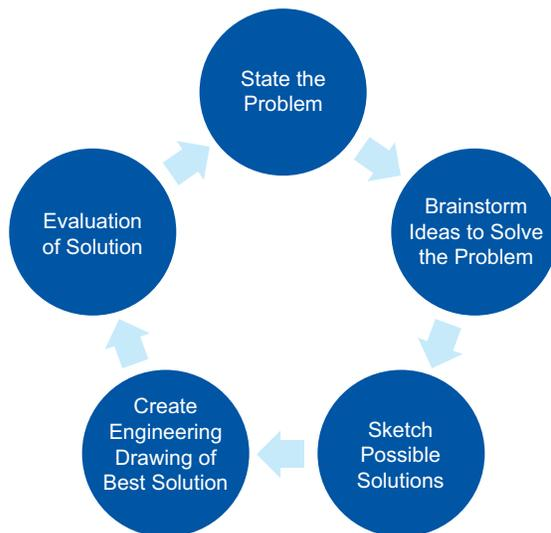

Figure 1. Technical design process loop.
- B. Participants will follow the technical design process loop (see Figure 1) to solve the provided engineering design problem.
- C. Students will prepare a notebook that includes each step of the technical design process (Figure 1) in order, beginning with the problem statement. The notebook should show a logical progression from one step to the next.
- D. The notebook should be presented in a standard three (3)-ring binder with a clear front sleeve for a cover page. The cover page must include the event title, the conference city and state,